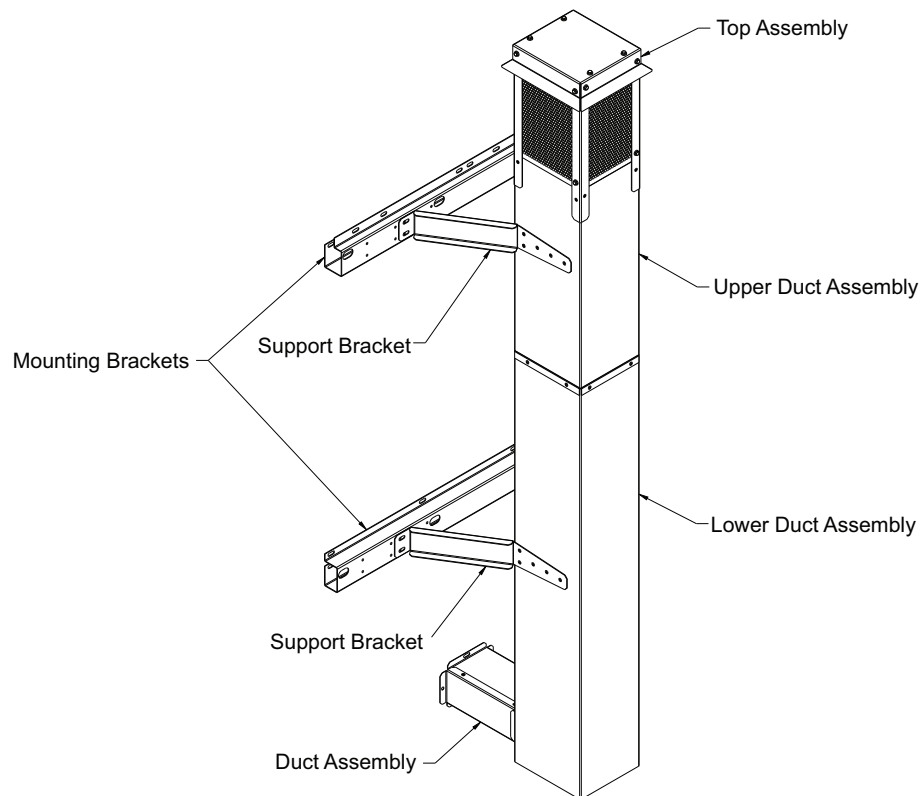

Fig. 1 — Flue Discharge Deflector Assembly
3. Assemble the flue stack deflector with support brackets and mount the accessory to the mounting brackets installed in the previous step. See Fig. 1.